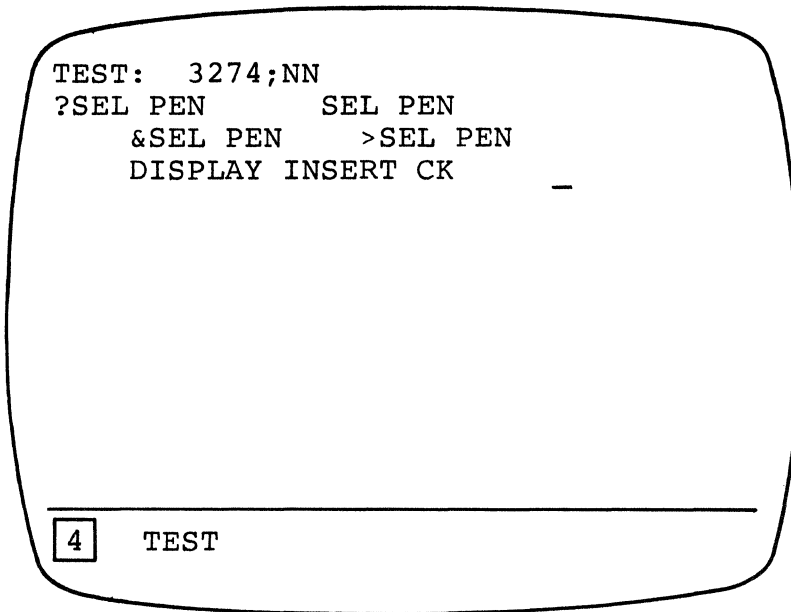

Figure 2-7. Test 0 (Path) Display Pattern
- A zero (0).
3. The pattern shown in Figure 2-7 will appear on the screen if the test was successful.